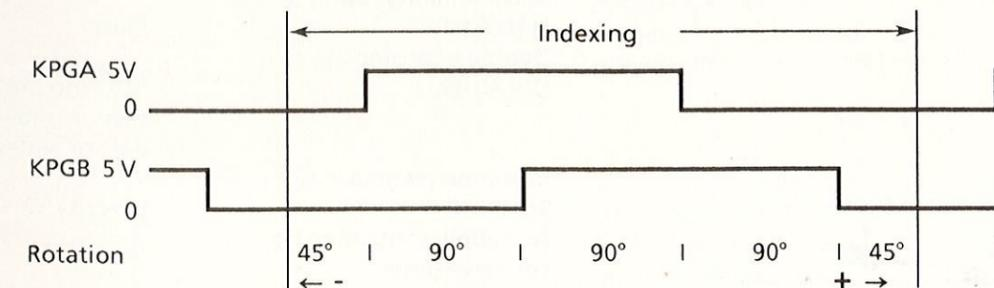

Fig. 1.36
- \*\*) Conventional encoder - Signal B, Signal A (Fig. 1.36)